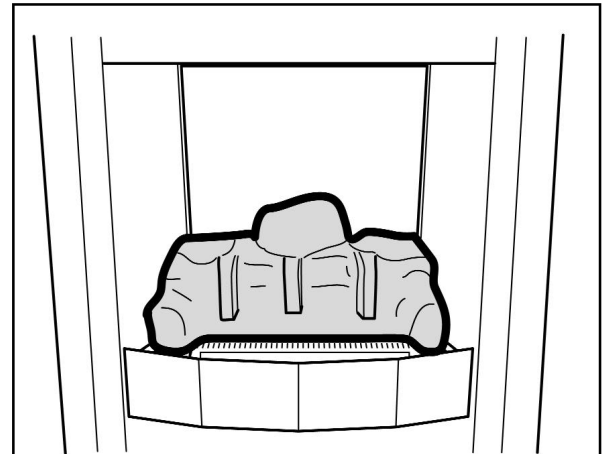

Figure 26 Rear base pebble position
1. Place the rear base pebble in the firebox. It should rest on the ledges at the rear sides of the burner unit (See figure 26). When located gently move the rear base pebble so that it is as far forward as possible. The amount of movement will be negligible.